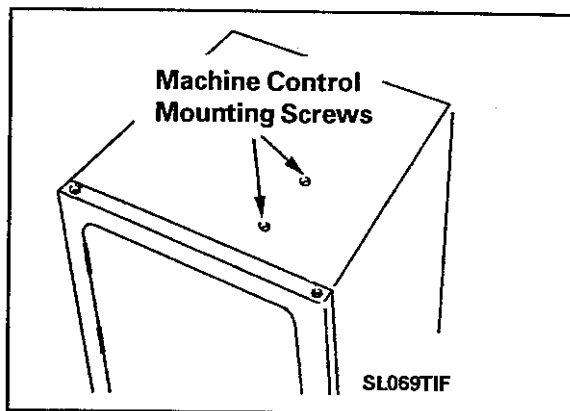

Figure 9-5
- located in the front right corner of the dryer top cover (*Figure 9-5*).
3. Remove two 5/16" hex head screws securing the machine control board bracket to the top cover (Figure 9-5).